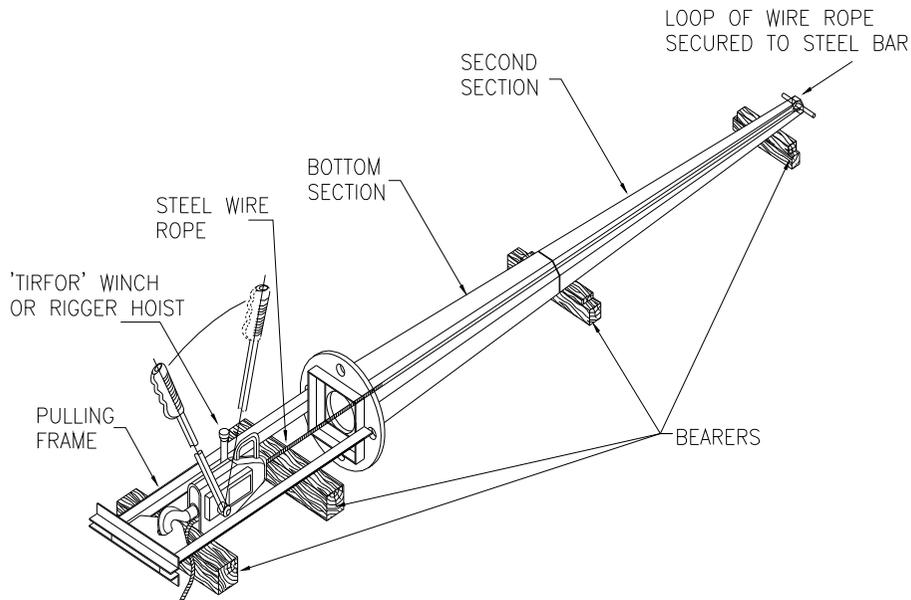

Figure 4.
- I) Assemble the tirfor and the frame at the base of the bottom section. Feed the cable through the centre looping it at the top end of the adjoining section around a rigid bar bearing on the section (**Figure 4**). Ensure that the bearing of the bar will not damage (buckle locally) the top of the section during winching (e.g. use timber packers). Also use timber packers at the bottom if there is no flange base (e.g. ground planted column).